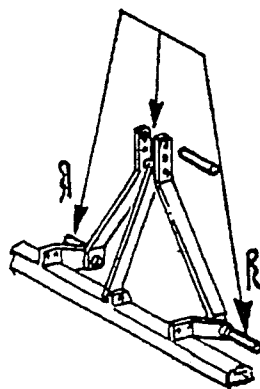

FIG. 5
9.3 - Bring the tractor up to the machine, **taking care not to get between the two at this stage**, and proceed with coupling only when the tractor is stationary. Fix the three coupling arms with the relative pins and insert the appropriate safety split pins (fig. 5).
9.4 - Limit sideways movements and keep the machine parallel with the tractor, using the stabilizer chains and arm adjustment device (fig. 5.b).
9.5 - Adjust the third point arm until the machine coupling is at right angles (fig. 5.a).